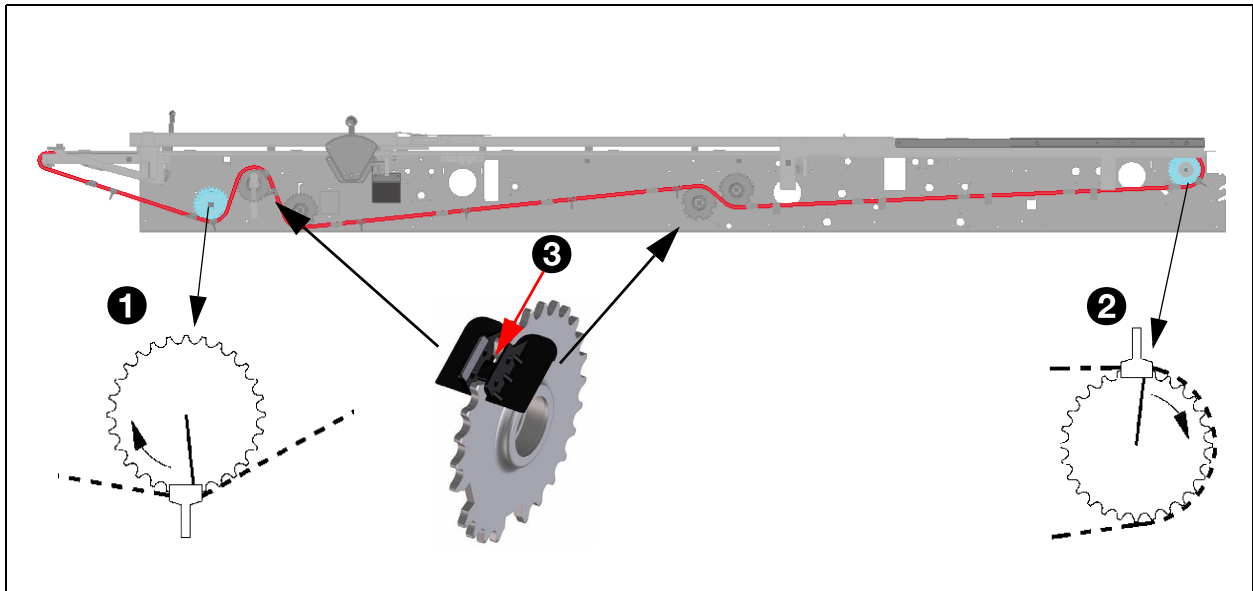

Fig. 179 - Path of transport section chain
*When putting on the pusher chain take note of the position of the loop wheels relative to a pusher as indicated in step 1 and 2 accompanying fig. 179.*
1. See (1) the position of the loop wheel relative to a pusher on the placement side of the packaging conveyor.
2. See (2) the position of the loop wheel relative to a pusher on the take-away side of the packaging conveyor.
3. Make sure that the pusher and auxiliary pusher are located in the notches in the tensioner chain-wheels. See (3).